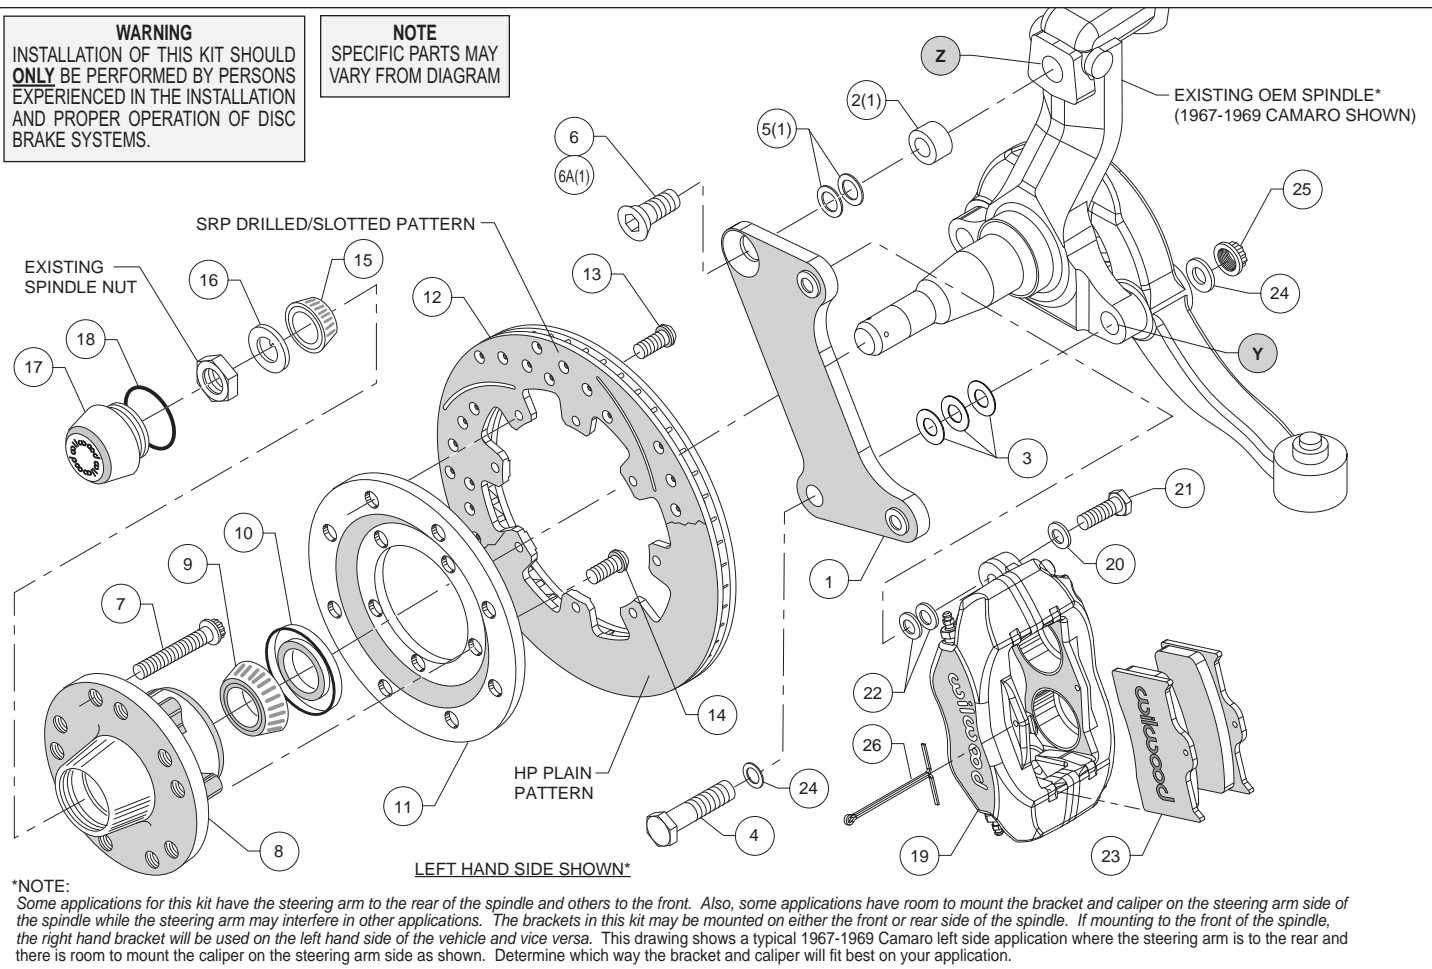
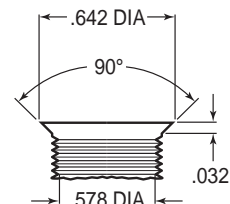

Figure 1. Typical Installation Configuration
Figure 3. Drill and Tap Detail
**Assembly Instructions** (numbers in parenthesis refer to the parts list and Figure 1 on the preceding page): **CAUTION:** All mounting bolts must fully engage clinch nuts. Be sure to check that all bolts are either flush or protruding through flanged side of clinch nut after shimming, Figure 4.
•**NOTE:** Some applications for this kit have the steering arm to the rear of the spindle and others to the front. Also, some applications have room to mount the bracket and caliper on the steering arm side of the spindle while the steering arm may interfere in other applications. The brackets in this kit may be mounted on either the front or rear side of the spindle. If mounting to the front of the spindle, the right hand bracket will be used on the left hand side of the vehicle and vice versa. Figure 1 shows a typical 1967-1969 Camaro left side application where the steering arm is to the rear and there is room to mount the caliper on the steering arm side as shown. Determine which way the bracket and caliper will fit best on your application.
•**NOTE:** Some spindles in this year range may require the following modifications (reference Figure 1 and Figure 3): Top anchor pin hole (Z) must be drilled and tapped to the dimensions as outlined in Figure 3. The lower bolt hole (Y) in the spindle used to mount the new caliper bracket, and the mating steering arm hole, must be enlarged to .50" by drilling. It is recommended these modifications be performed by a qualified machinist.
•Install wheel studs (7) into the hub (8), Photo 1. Torque to 77 ft-lb. **NOTE:** There are two five lug patterns in the hub (5 x 4.50 and 5 x 4.75). Ensure the correct hub stud pattern is being used to fit the wheel application.
- Pack the large inner bearing cone (9) with high temperature disc brake bearing grease (available from your local auto parts store) and install into the backside of the hub (8), Photo 2.
- Install the grease seal (10) by pressing into the backside of the hub (8), flush with the end of the hub, Photo 2.
- Orient the rotor (12) and the rotor adapter (11) as shown in Figure 1 and Photo 3. Attach the rotor to the adapter using bolts (13). Using an alternating sequence, apply red *Loctite*® 271 to the threads, and torque to 25 ft-lb.
- Mount the adapter/rotor assembly (11 and 12) to the hub (8) using bolts (14), as shown in Figure 1 and Photo 4. Using an alternating sequence, apply red *Loctite*® 271 to the threads, and torque to 45 ft-lb.
- Disc Brake Spindle Application Only:** Follow the instructions below, but instead use bolt (6A), spacer (2), and two .050" thick washers (5) in the upper bolt hole location, Figure 1.
- Orient the flat bracket (1) as shown in Figure 1 and Photo 5, and install using bottom bolt (4), washers (24), and nut (25), Figure 1. Initially place three .032" thick shims (3) between the bracket and spindle. Install the upper bolt (6 or 6A), Photo 6. Temporarily tighten bolts. **NOTE:** *The bracket must fit squarely against the mounting surfaces on the spindle.* Inspect for interference from casting irregularities, machining ridges, burrs, etc. Ensure that the flanged heads of the clinch nuts in the bracket are facing outboard. Temporarily install the hub/rotor assembly. Check that the bracket is aligned parallel to the rotor, Photo 7. If not, adjust by adding or subtracting shims (3) on the lower bolt between the bracket and spindle, Figure 1. Once the bracket alignment is correct, remove the upper bolt (6 or 6A), apply red *Loctite*® 271 to the bolt threads, and torque to 120 ft-lb. Torque the lower lock nut to 65 ft-lb.
- Pack the small outer bearing cone (15) with high temperature disc brake bearing grease and install into hub (8). Slide the hub/rotor assembly onto the spindle. Secure using spindle washer (16) and OEM spindle nut, Photo 8. Adjust bearings per OEM specifications. Install saved OEM nut lock (if any) and a new cotter pin (not included).
- Screw dust cap (17) into hub (8). Friction created by the o-ring (18) on the dust cap keeps it from unscrewing. **NOTE:** *The O.D. of the existing OEM spindle washer may be larger than the I.D. of the dust cap not allowing it to seat against the hub face. Therefore, use the spindle washer (16) supplied with the kit instead of the OEM washer.*
- NOTE:** *Please reference the caution statement at the beginning of the assembly instructions.* Mount the caliper (19) onto the caliper bracket (1) using bolts (21) and washers (20), as shown in Figure 1. Initially place two .035" thick shims (22) on each bolt between the caliper and the bracket, Photo 9. Temporarily tighten the mounting bolts and view the rotor (12) through the top opening of the caliper. The rotor should be centered in the caliper, Photo 10. If not, adjust by adding or subtracting shims (22) between the bracket and the caliper. Always use the same amount of shims on each of the two mounting bolts. **NOTE:** *The end of the bolt must be flush with or slightly*